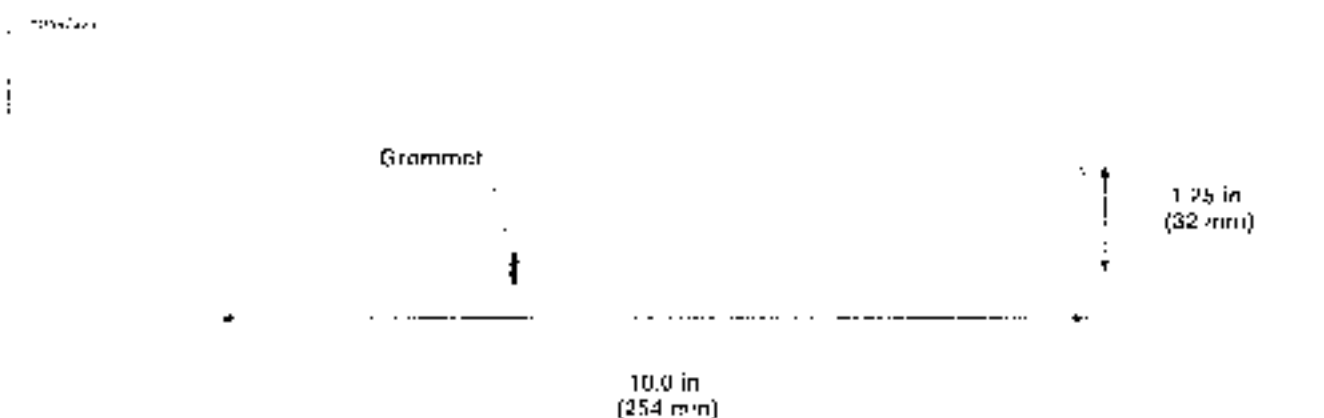

Figure 2-62. Alignment Tool
3. See Figure 2-62. To ensure accurate measurements, obtain a piece of 1/8 in. (3.2 mm) aluminum welding rod 11 in. (260 mm) long. Grind one end down to a blunt point. With a plane, bend the rod 90 degrees as shown. Place a snug fitting grommet on the rod to act as a slide measurement indicator.